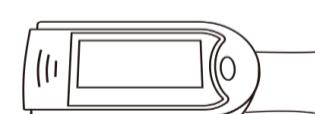

Figure 5. Put finger in position
1. The finger should be placed properly (see the attached illustration of this manual, Figure 5), or else it may cause inaccurate measurement.
- 7.2 Open the clip as shown in Figure 5.